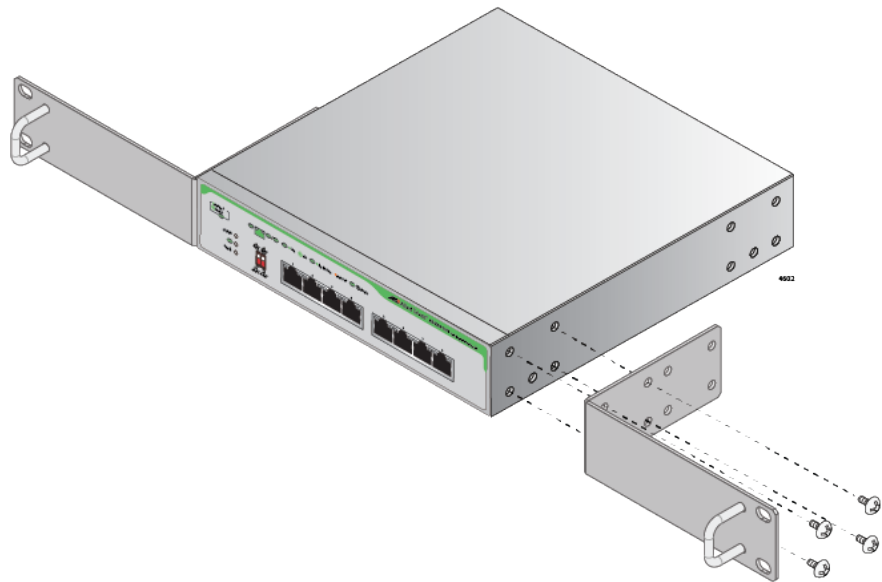

Figure 20. Installing the Brackets on the Switch
4. Attach the two rack mount brackets to the sides of the switch with the eight bracket screws as shown in Figure 20.